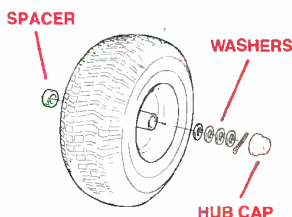

Figure 11. Road Wheel Removal.
3. Remove the rear wheel hub caps and the "E" clips from the axle shafts. (See figure 11). Then slide off the rear wheels.
2. Use a pair of pliers to straighten the Split Pin legs and then pull the pins out. (See figure 11).
2. Using a strong screw driver, prise off the "E" clip (See figure 11).